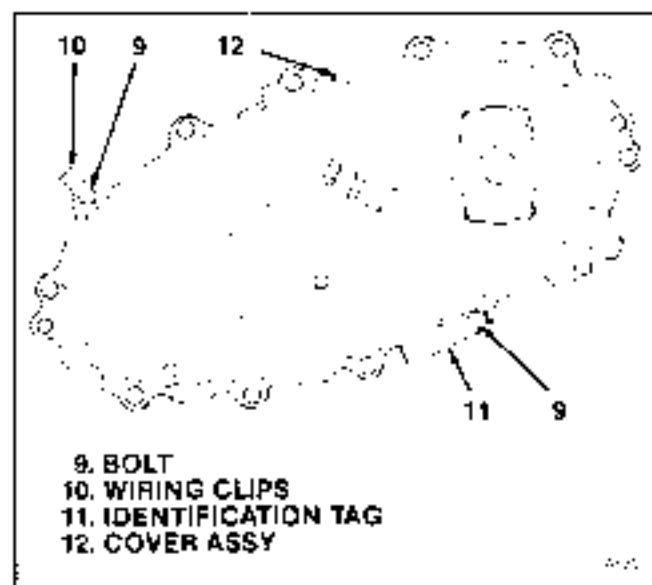

Figure 5-17. Wiring Clip and Identification Tag Locations
- d. Install twelve bolts (9) positioning identification tag (11) and wiring clip (10) under bolt heads at locations shown in figure 5-17. Torque bolts to 40-45 lb-ft (54-2.61 k Nm).